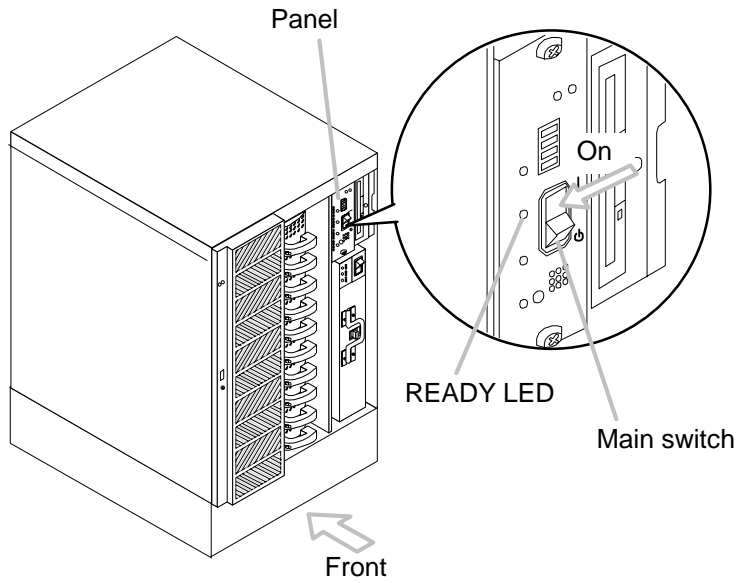

Figure 4.31 Location of Main Switch and READY LED
5. For the H2F, set all the breakers in the PDBs to on. (see figure 4.31)
7. Make sure that the READY LED (green) comes on in 2 or 3 minutes. (see figure 4.31)